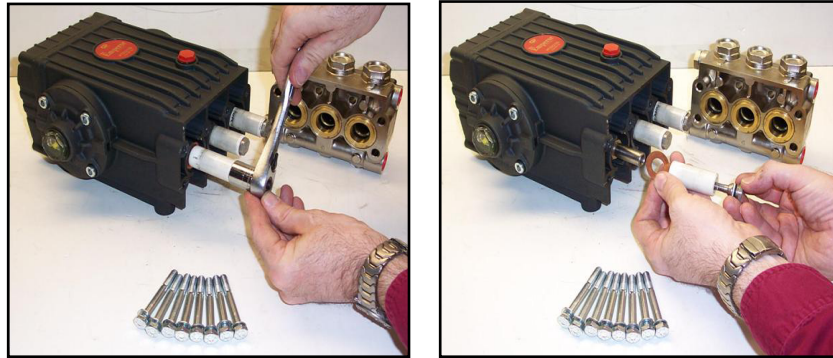

Figure 9. Remove Stainless Steel Plunger Bolt and Ceramic Plunger
15. Remove the stainless steel plunger bolt and ceramic plunger from the plunger guide (see Figure 9).
17. Separate plunger bolt from ceramic plunger (see Figure 9).